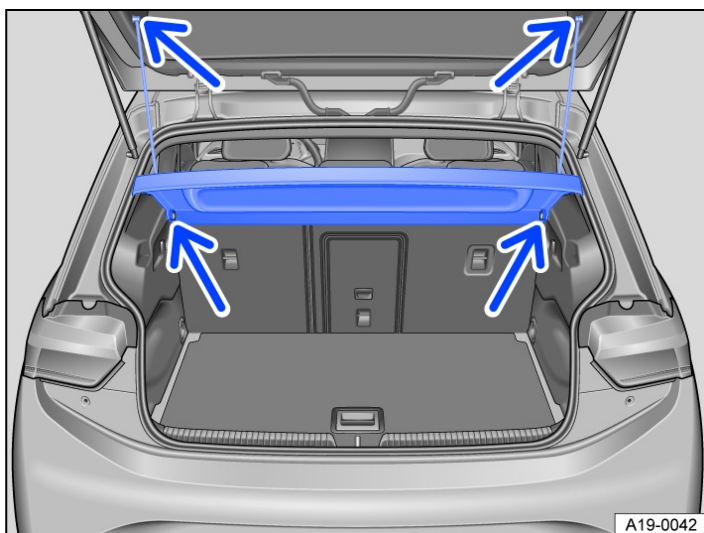

Fig. 1 In the luggage compartment: removing and installing the luggage compartment cover.
- Unhook the retaining straps from the boot lid → Fig. 1 (upper arrows).